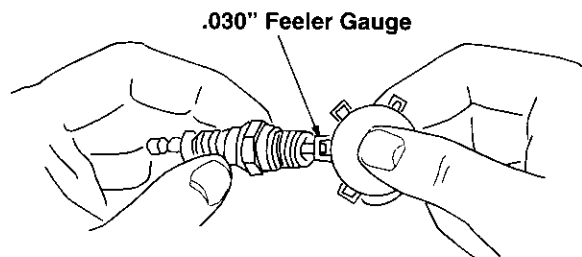

Figure 15
- Clean spark plug and reset the gap to .030" at least once a season or every 50 hours of operation. See Figure 15. Spark plug replacement is recommended at the start of each season. Refer to engine parts list for correct spark plug type.